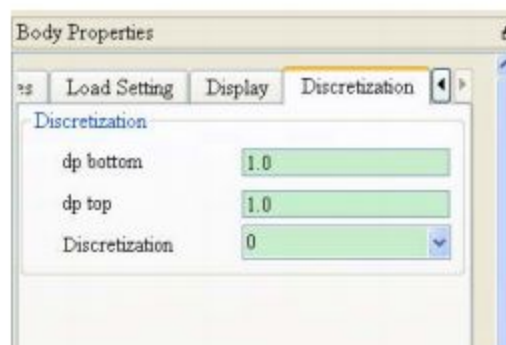
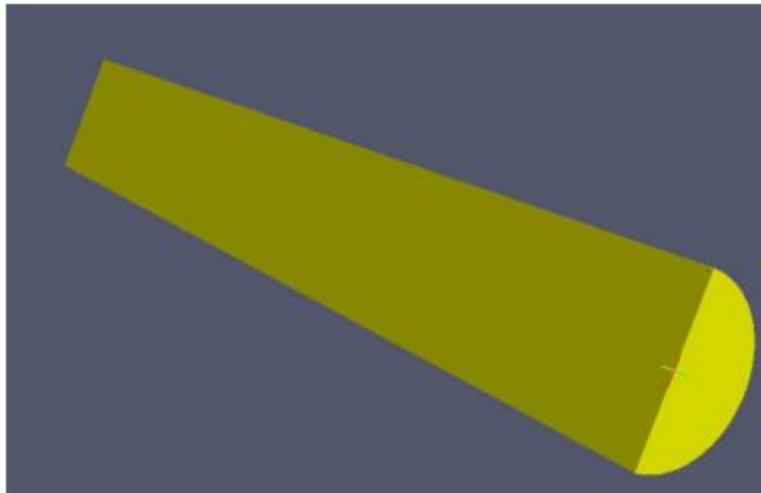

图 5.10: 弹身离散设置
图 5.11: 弹身模型
f. Click the Discretization button to make discrete settings, which are mainly used for particle spacing settings, as follows In Figure 5.10; the body model is shown in Figure 5.11.
d. Click the Discretization button to make a discrete property page for discrete parameter settings, as shown in Figure 5.10.